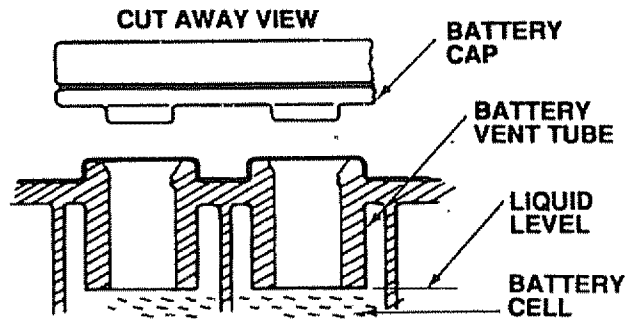

FIGURE 1
- Fill each cell with battery acid. Add the acid until it reaches the bottom of the vent tubes (Fig. 1). Do not add the acid beyond this level or the additional acid can come out when the battery is charged.